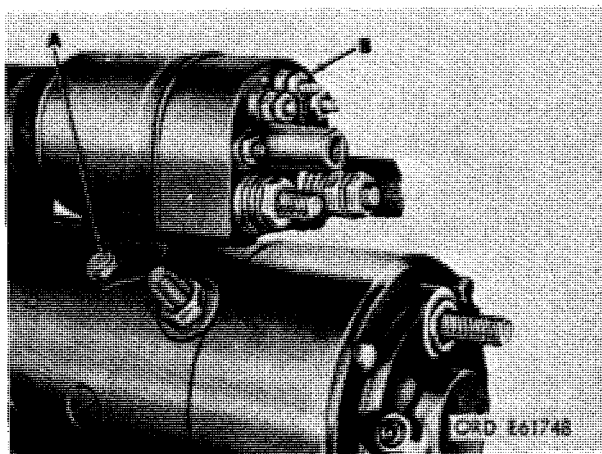

Figure 3-3. Removing or installing relay assembly attaching parts.
*c.* Remove two hex-head bolts (A, fig. 3-3) securing relay assembly (B) to field ring assembly.